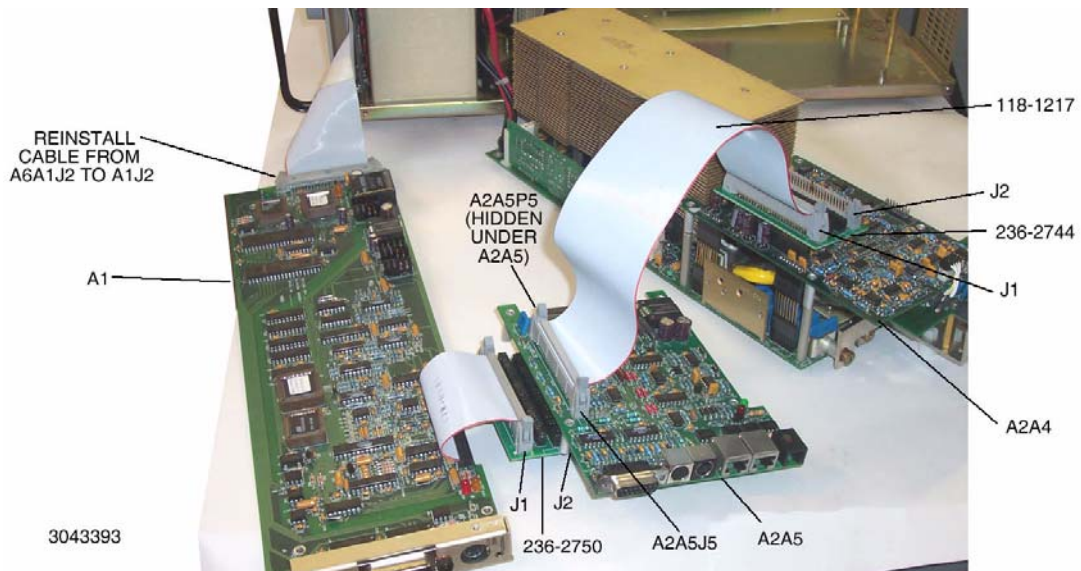

FIGURE 4. ACCESS TO A2A4 AND A2A5, COMPONENT LOCATIONS
- a. Refer to Figure 4 and connect the cable from A1J1 to J1 header of PCB connector assembly 2362750 (from Kit).